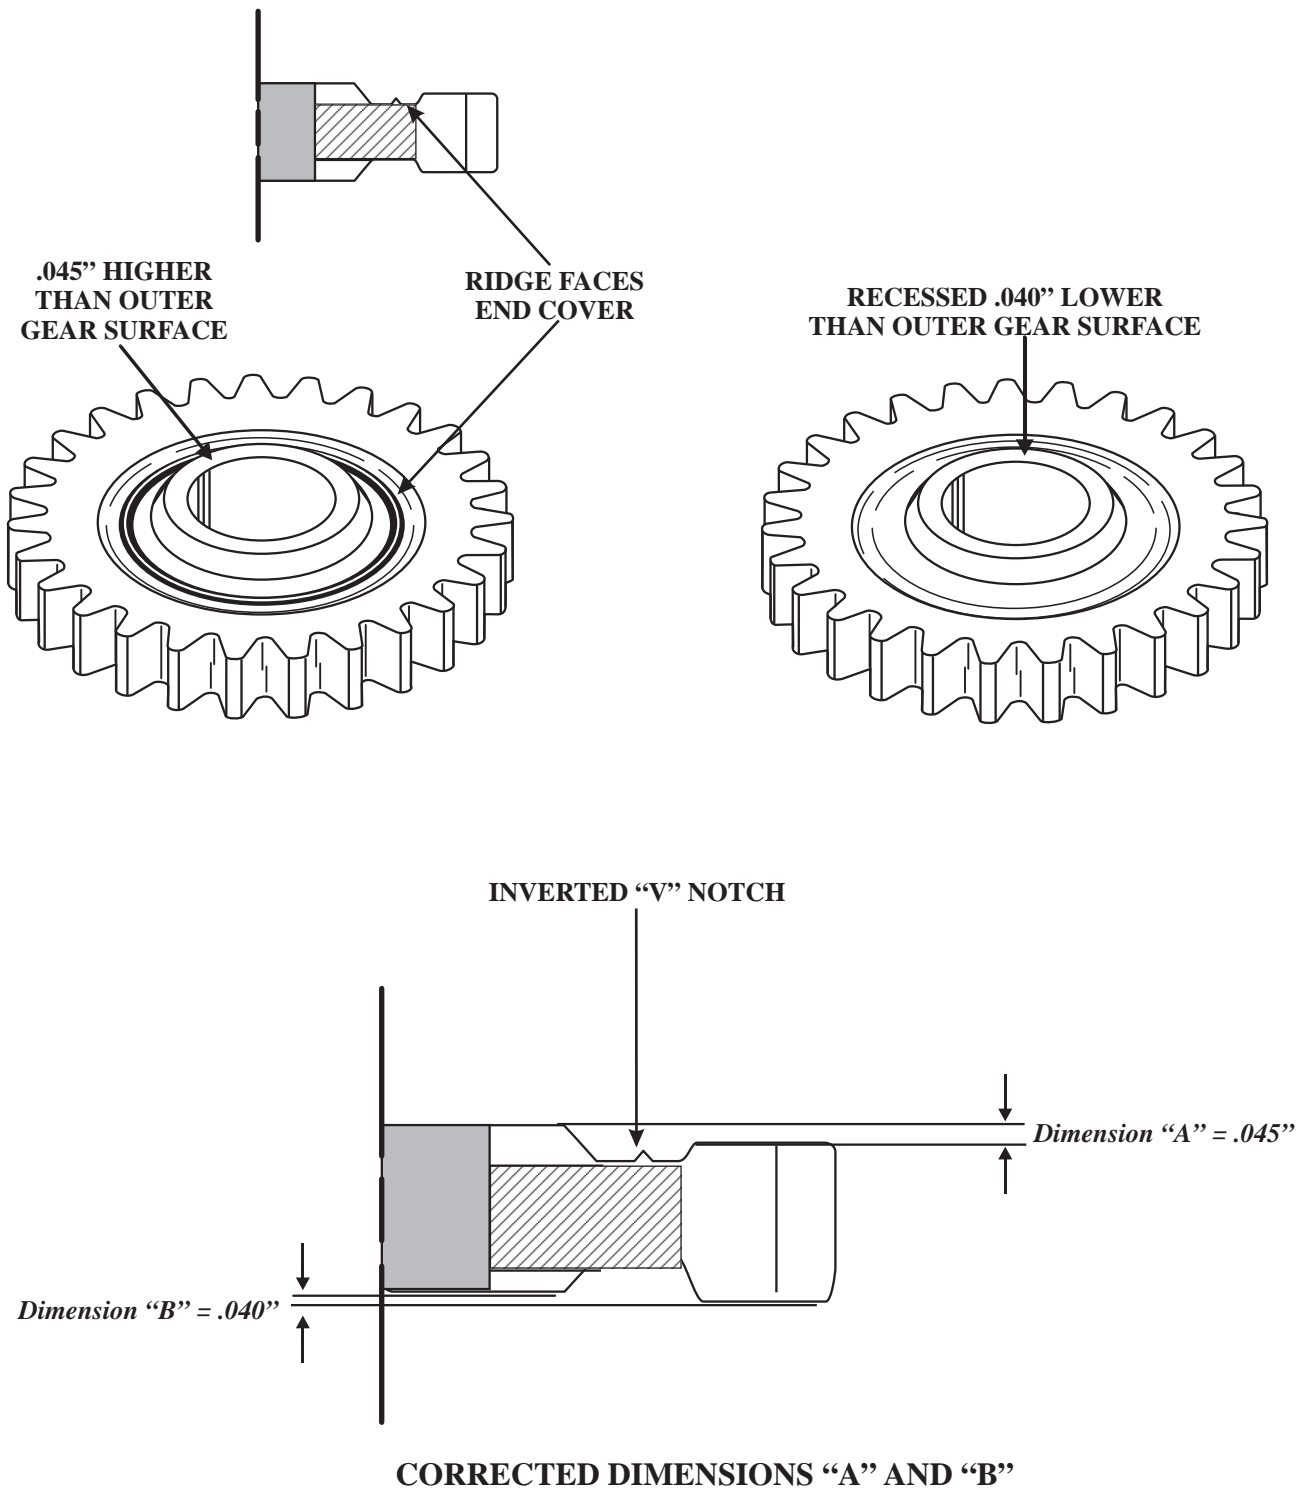

Figure 2
The AW55-50SN/AF23/33-5 transmission contains three (3) planetary sets, seven (7) multiple disc clutches, one (1) band and two (2) sprag type clutches which are represented in Figures 2 and 3.